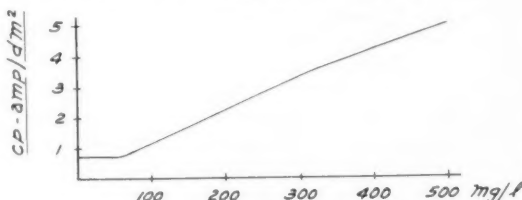

Fig. 9. Cadmium
c. 1. The curve in Fig. 9 shows that beyond 75 mg./l., the CP increases very rapidly. This curve greatly resembles that of zinc.